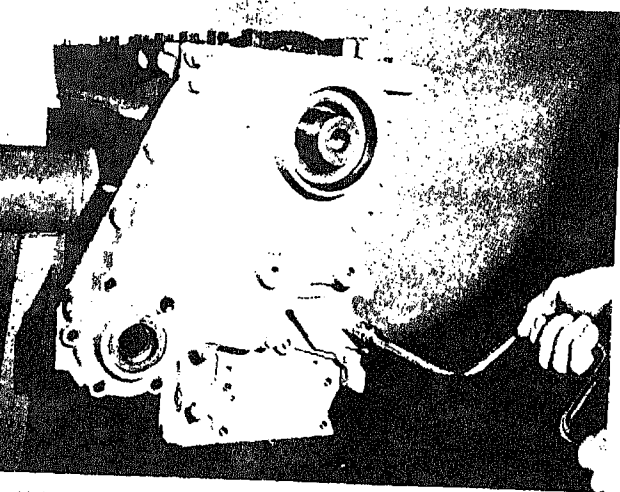

Fig. 14-1-48. Securing gear cover to block
2. Secure gear cover to mounting plate and block with lockwashers and capscrews, Fig. 14-1-48. Tighten to 30/35 ft. lbs. [4.1490/4.8405 kg m] torque.